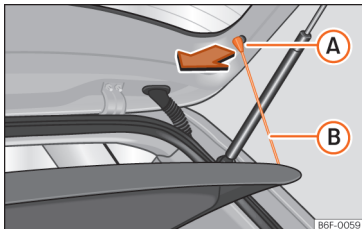

Fig. 166 In the boot: removing and installing the shelf.
- Detach the cord loops >>> Fig. 166 (B) from their hooks (A).
- Attach the securing straps >>> Fig. 166 (B) onto the rear lid.